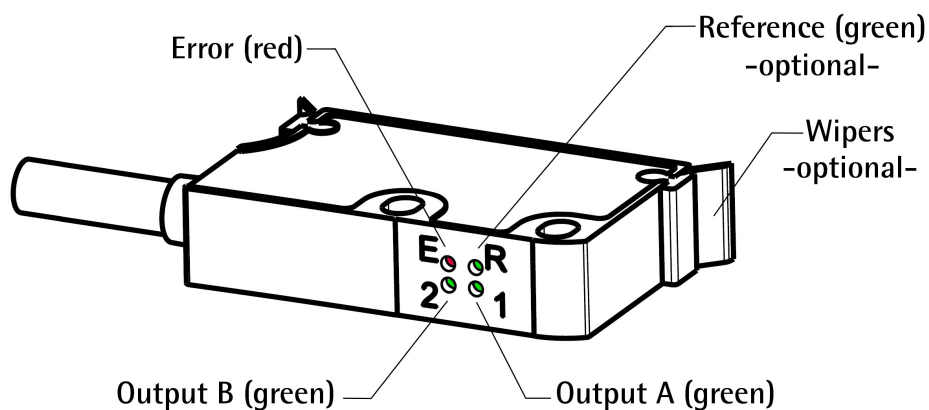

Figure 8 - Diagnostic LEDs and optional cleaning wipers
4.11 Diagnostic LEDs (Figure 8)
The following list shows some typical faults and errors that may occur during installation and operation of the magnetic measurement system. Refer also to the "4.11 Diagnostic LEDs (Figure 8)" section on page 25.